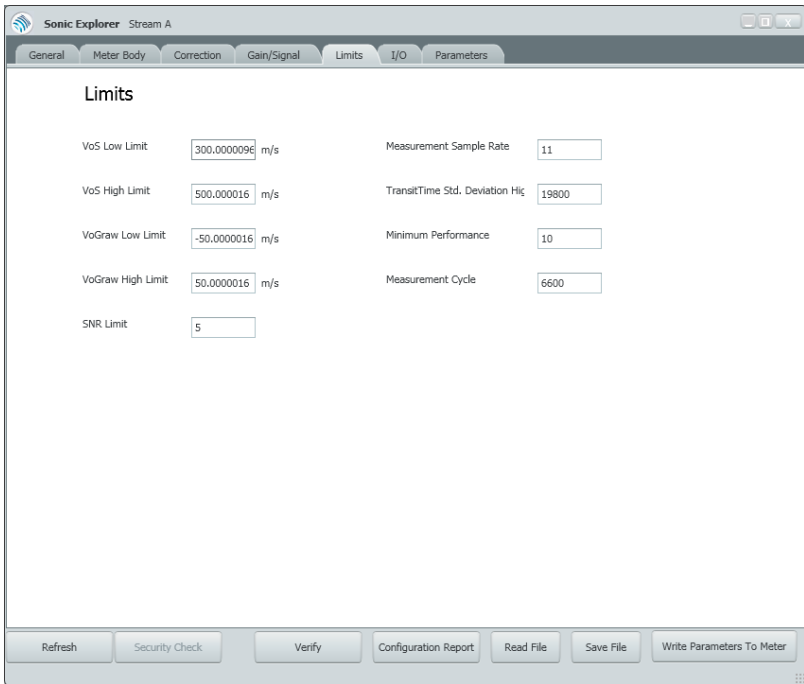

Figure 20-7 Adjust Meter Limits
- ✓ The limits window will be displayed. Please see Figure 20-7.